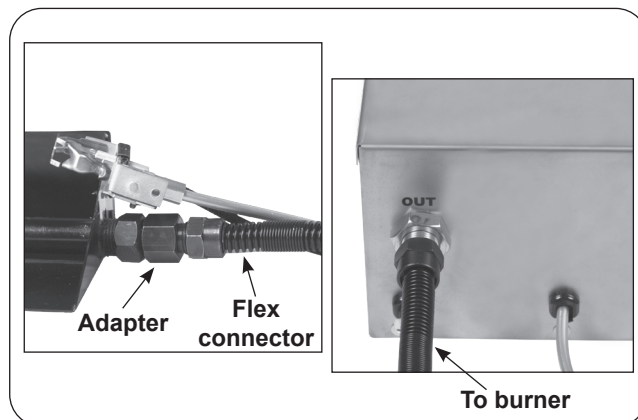

Fig. 7-3
2. Remove the adapter that is loosely connected to the flex connector. Attach the adapter to the fuel injector or air mixer on the burner using a pipe compound resistant to all gasses. Tighten securely. Then attach the open end of the flex connector to the adapter. Tighten securely (See Fig. 7-3).